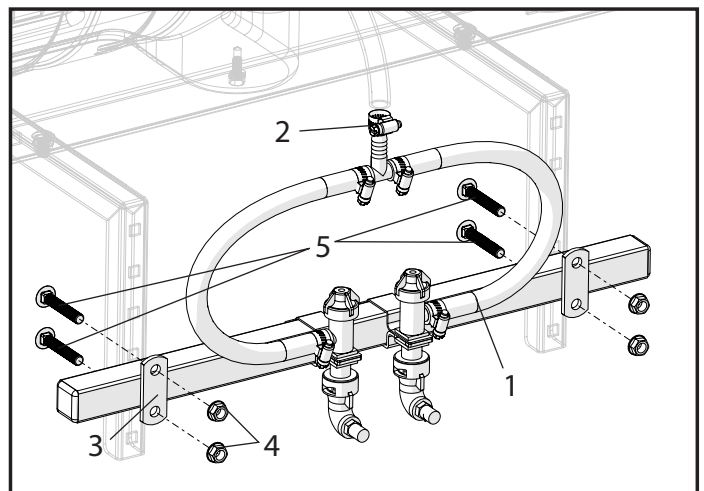

Figure 1
1. Mount the boom tube to the sprayer using the boom mounting clips, four 3/8-16 x 2 1/4" carriage bolts, and 3/8-16 flange nuts as shown in Figure 1.
2. Connect the 1/2" tee to the boom supply line with a hose clamp as shown in Figure 1.
3. Use the parts list above to reference parts in Figure 1